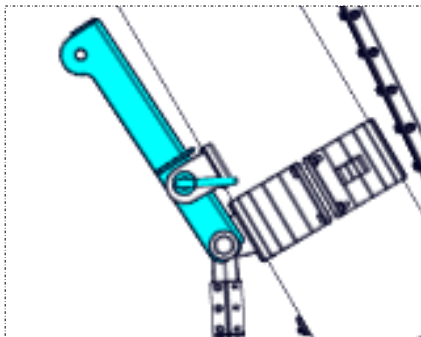

Figure 4.14
- 4) Fold the transport lock up along the discharge auger tube, lining up the holes in the middle of the transport lock with the tabs on the discharge auger tube (Figure 4.14).